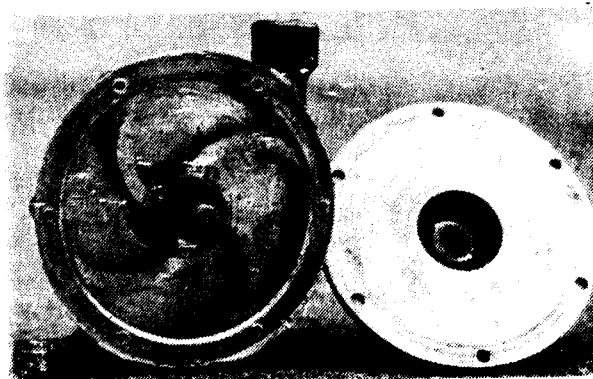

Figure 7-6. Centrifugal pump.
**Nonpositive displacement pumps.** The only type of PTO sprayer pump in use that does not displace liquid positively is the centrifugal pump (Figure 7-6). Since the liquid is not positively displaced, a pressure regulator does not have to be used with this